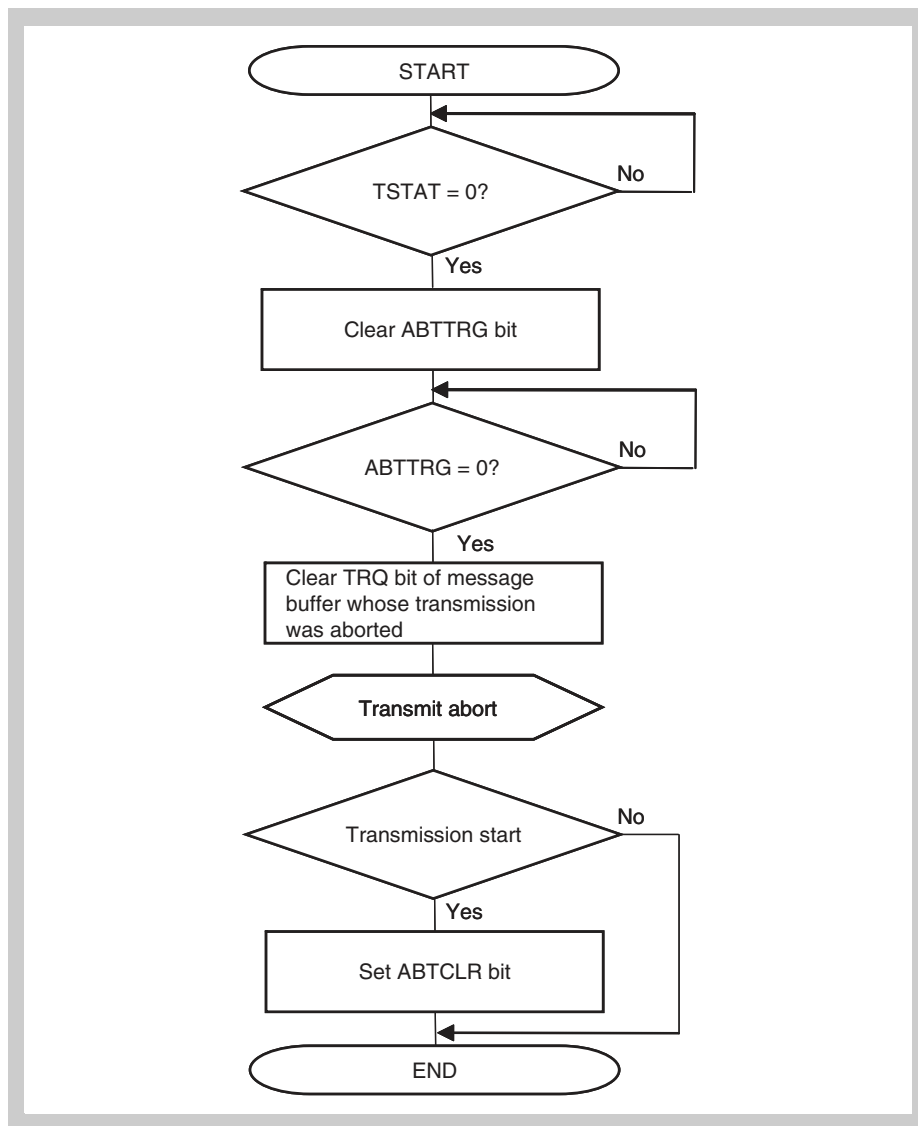

Figure 20-47 Transmission abort processing (normal operation mode with ABT)
Figure 20-47 shows the processing to skip resumption of transmitting a message that was stopped when transmission of an ABT message buffer was aborted.
2. Make a CAN sleep mode/CAN stop mode transition request after the ABTTRG bit is cleared (after ABT mode is aborted) following the procedure shown in *Figure 20-47* or *Figure 20-48*. When clearing a transmission request in an area other than the ABT area, follow the procedure shown in *Figure 20-45* on page 801.
2. Make a CAN sleep mode/CAN stop mode request after the ABTTRG bit is cleared (after ABT mode is stopped) following the procedure shown in *Figure 20-47* or *Figure 20-48*. When clearing a transmission request in an area other than the ABT area, follow the procedure shown in *Figure 20-45* on page 801.
**Caution** To abort transmission before making a request for the CAN sleep mode, perform processing according to *Figure 20-45 on page 801* and *Figure 20-47 on page 803*.